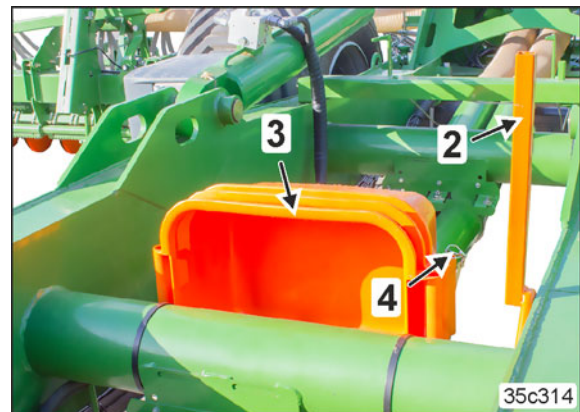

Fig. 66
When not in use, the calibration troughs are inserted inside one another and secured in the transport bracket using a linch pin (Fig. 66/4).
- Citan 15001-C (Fig. 66/3)
- Citan 15001-C (Fig. 66/2)